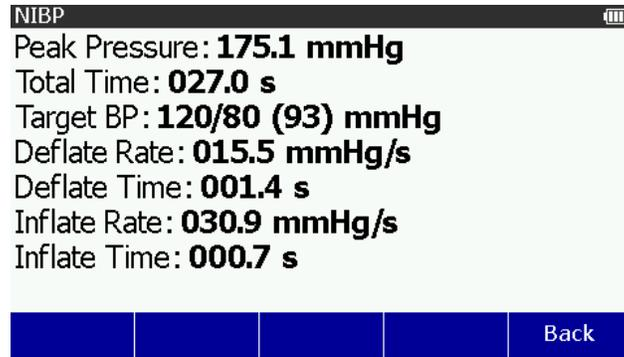

Figure 34. NIBP Summary Screen
7. Push the **Summary** softkey to show the blood pressure measurements in Figure 34 in the display.